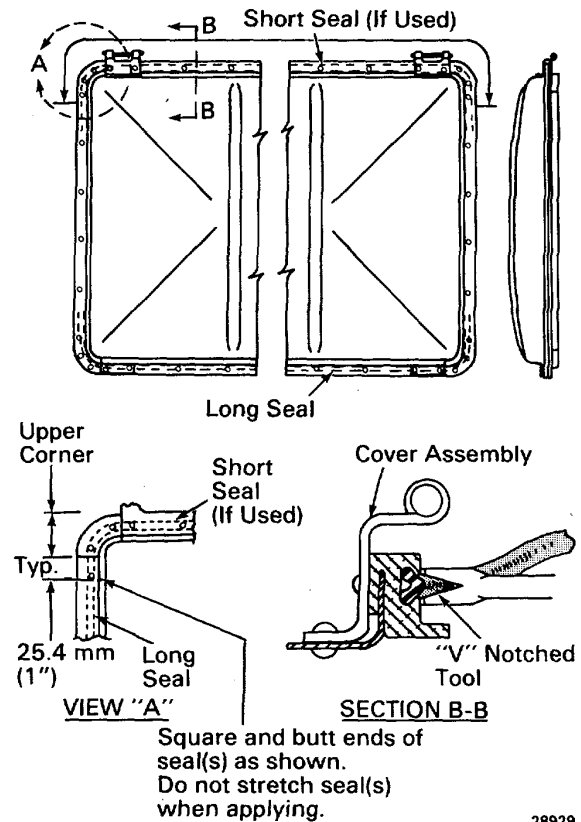

Fig. 1-13 - Cover Seal Application
1. Begin application of seal at a point approximately 25.4 mm (1") from upper left hand corner of cover, as shown in Fig. 1-13, and